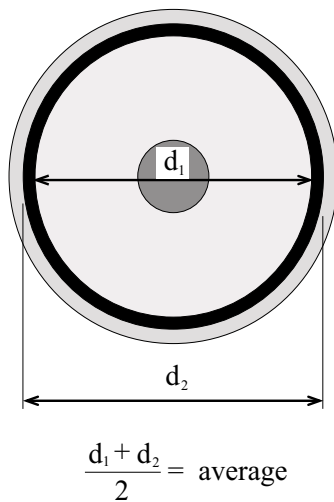

Figure 1.1
1. Determine the diameter of the surface enclosed by the O-ring by measuring the outer and inner diameters of the O-ring. Then find the average of these two diameters. See Figure 1.1